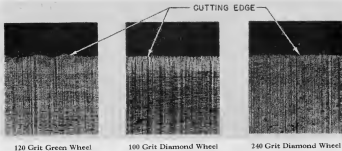

Figure 91A
3. The selection of a diamond grinding wheel is governed by the type of operation, the speed available in the machine, and the degree of finish desired. With a wheel of 80 to 150 grit, it is comparatively easy to rough grind for stock removal. An excellent cutting edge can be obtained with 180 to 240 grit wheels (Figure 91A). The surface speed of the resinoid and vitrified bonded grinding wheel is generally 5000 to 6000 surface ft. per minute, metal bonded wheels as low as 3000 surface ft. per minute.